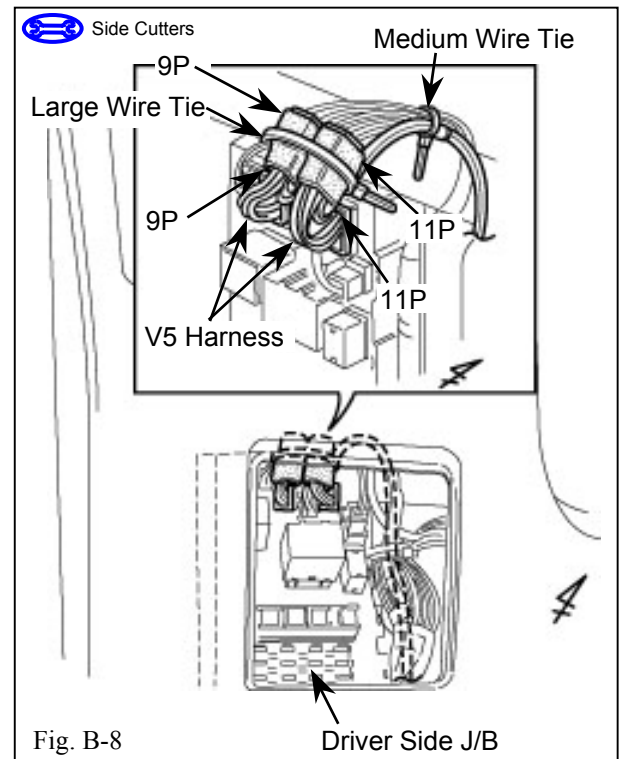

Fig. B-8
10. Secure the white 9P and gray 11P connectors to the vehicle's harness with one large wire tie. (Fig. B-8)
11. Secure the V5 harness to the vehicle harness with one medium wire tie. (Fig. B-8)